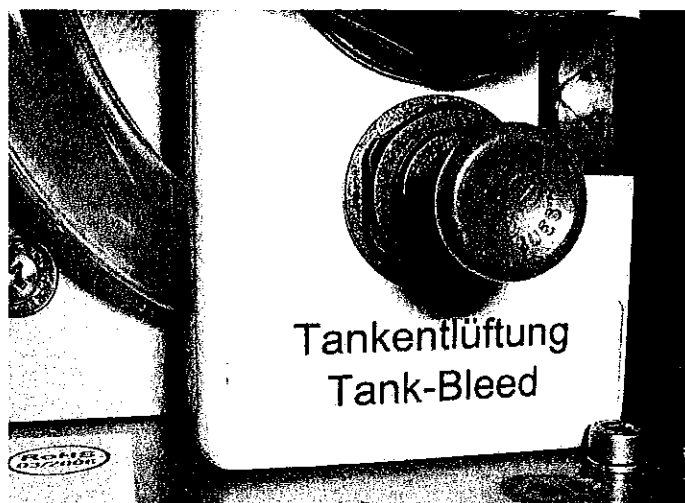

Figure 6-1. Removing the Tank Bleed Cap
3. Take off the sealing plug from the tank bleed, by pressing the black ring and pulling the sealing plug at the same time (Figure 6-1).